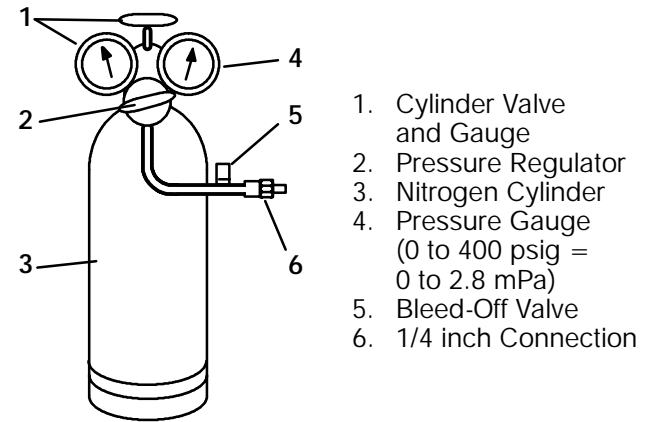

Figure 4-3. Checking High Pressure Switch
2. The recommended method is connecting three lines (3/8” OD copper tubing or larger) to manifold. Attach one line to the filter-drier outlet valve, compressor suction and discharge service valves. (See Figure 4-3.)
3. Drier can be evacuated at liquid service valve. (See Figure 4-3.)